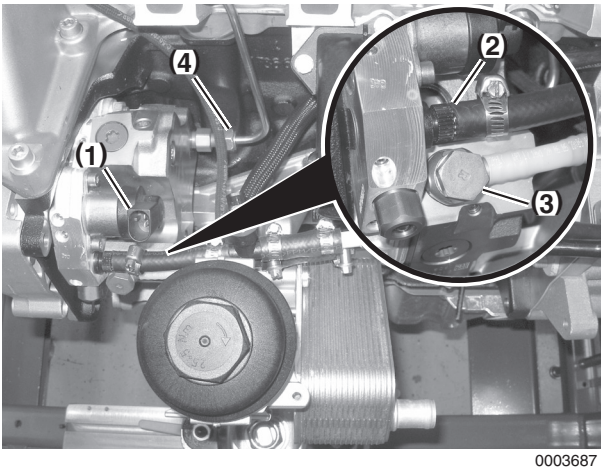

Figure 6-33
7. **NOTICE:** Start both union nuts on high-pressure line before tightening either one. Install high-pressure line and tighten union nuts (**Figure 6-33, (4)**) using special tool OEM No. 13 5 020 to 23 N·m (204 in.-lb). See *Remove and Install High-Pressure Fuel Lines* on page 6-13.
8. Connect fuel return line and banjo bolt (**Figure 6-33, (3)**) with new seal washers.
9. Connect fuel supply line (**Figure 6-33, (2)**).
10. Connect electrical connector to fuel measuring unit (**Figure 6-33, (1)**).